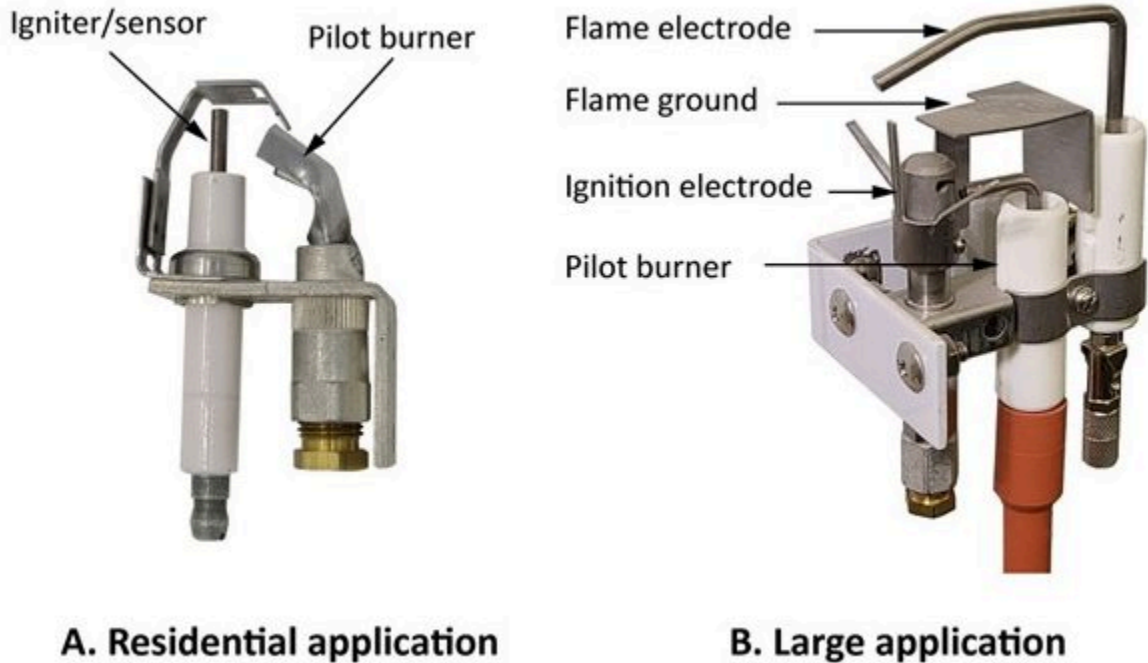

Figure 8 Rectified flame rod ground area
- Figure 8 “Burner Showing Gas Flow through an Orifice” by Camosun College is licensed under a CC BY 4.0 licence.
The flame rectification system also uses two electrodes, but with one important difference: the ground electrode is much larger than the flame electrode. Usually the ground electrode will be the burner head. In some cases, additional metal rods or plates must be added to the burner to increase the grounding surface area, as it must be at least 4 times larger (usually up to 10 times larger) than the flame rod or flame electrode. (Figure 8).
- Figure 8 “Rectified flame rod ground area” by Camosun College is licensed under a CC BY 4.0 licence.